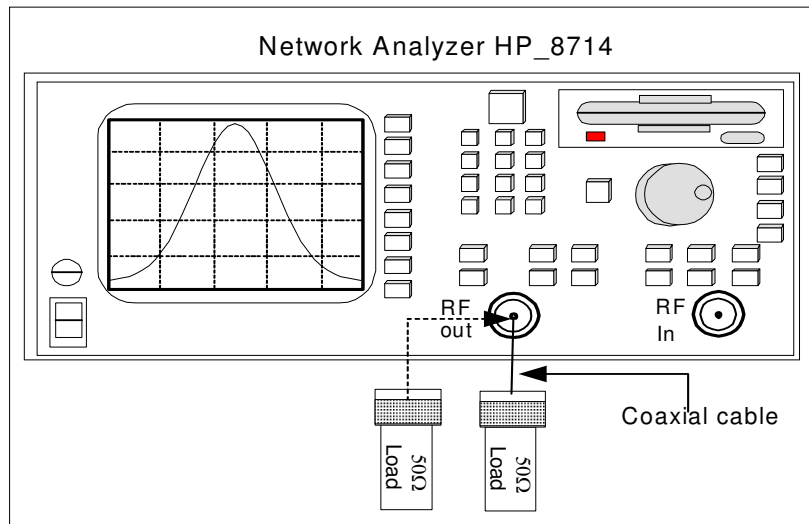

Figure 7 - Reflection measurement of a coaxial cable with a 50 Ohm termination.
6. Connect a cocaxial cable to the real network analyzer, terminated with 50 $\Omega$  load, as indicated in Figure 7.